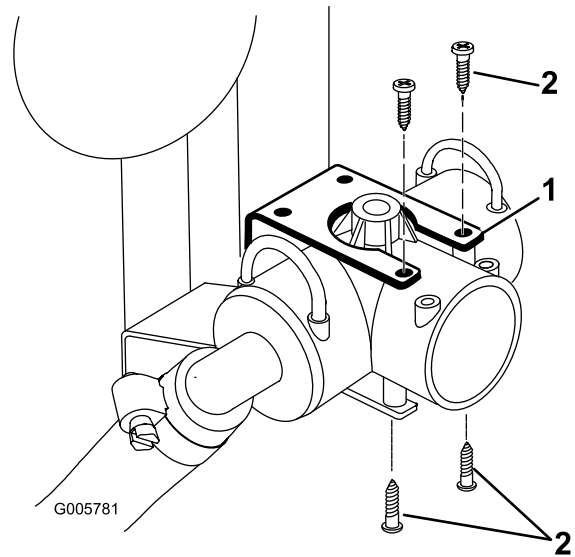

Figure 4
2. Remove the four screws securing the supply tee to the mounting bracket (Figure 4). Remove the supply tee and hoses.